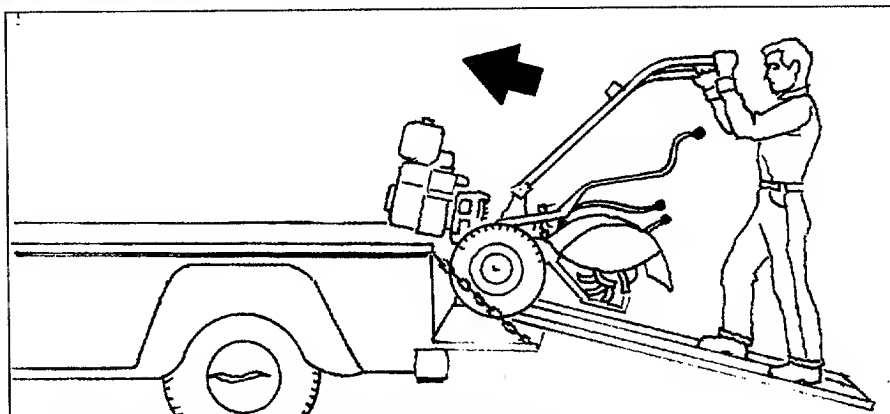

Figure 4-10: To go up ramps, use FORWARD drive.
4. To go up ramps, use FORWARD drive and follow the tiller up the ramps (Figure 4-10).